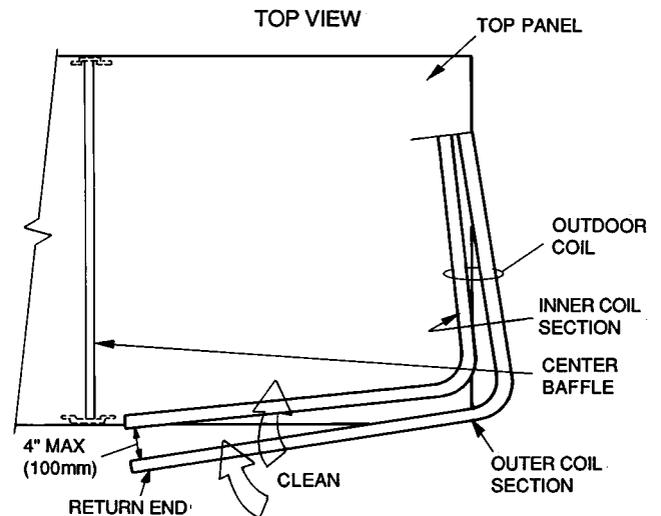

Fig. 23 — Separating Coil Sections
4. Remove device holding coil sections together at return end of outdoor coil. Carefully separate the outer coil section 75 to 100 mm (3 to 4 in.) from the inner section. See Fig. 23.